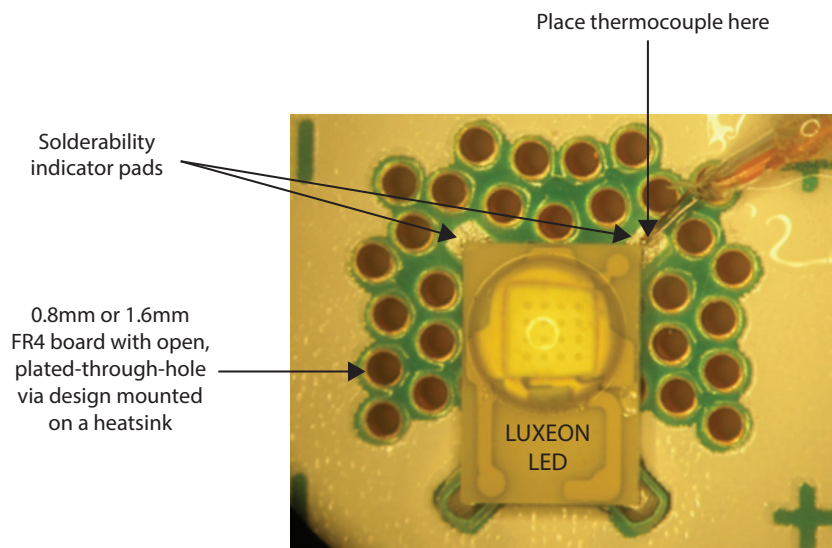

Figure 1. Solderability indicator pad and thermocouple placement.
The best way to define  $R\theta_{J-Ref}$  for a LUXEON LED mounted on 0.8mm or 1.6mm FR4 board with open, plated-through-hole vias is to define the thermal resistance between the LED junction and the solderability indicator pad. Let us call this the thermal characterization parameter,  $\Psi_{J-S}$ . The solderability indicator pad provides the lowest thermal path to the thermal pad of a LUXEON LED. This thermal pad temperature is also known as the case temperature. We can define  $T_{Ref}$  as the solderability indicator pad temperature ( $T_c$ ) and place a thermocouple on any one of the two pads as shown in Figure 1.
4. Place the thermocouple tip within the solderability indicator pad as shown in Figure 1.
2. Place the thermocouple tip within the solderability indicator pad as shown in Figure 1.